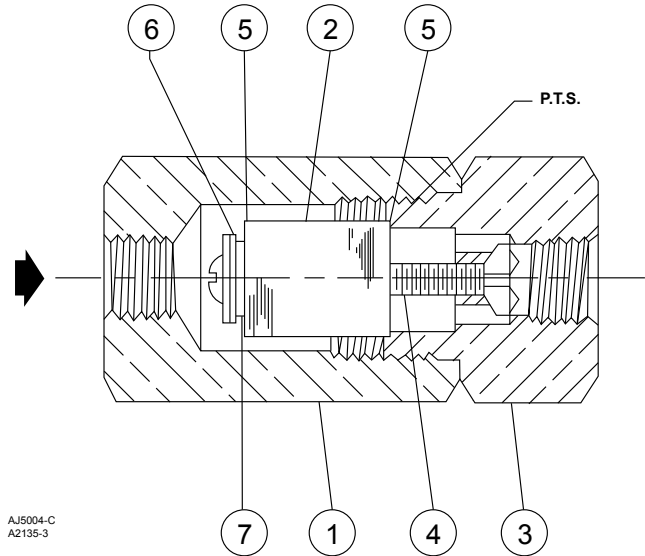

Figure 1. Typical P590 Filter Assembly
Using good piping practices, make sure that all tubing and piping are clean and unobstructed. Apply a good grade of pipe compound to the male pipeline threads. Install the filter in the line with the flow in the direction of the arrow shown in Figure 1.
Perform this procedure to clean or replace filter parts in a P590 Series filter assembly. Key numbers are referenced in Figure 1.
Upon reassembly, one of the flat washers (key 5) must go between the filter element and the filter head (key 3) and the other must go between the filter element and gasket. Use a good grade of pipe thread sealant on the filter head pipe threads as shown by P.T.S. in Figure 1.